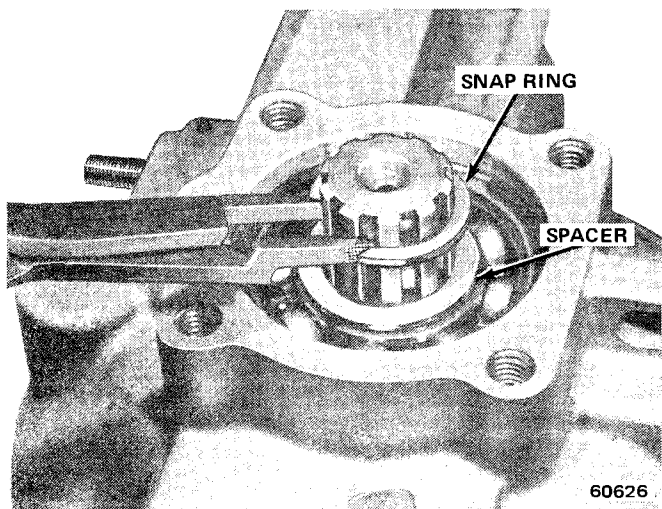

Fig. 2D-28 Main Shaft Snap Ring Removal-Installation
(7) Remove following components as assembly: direct drive sleeve and needle bearing, shift collar hub and needle bearing, reduction collar hub, and ring gear and needle bearings (fig. 2D-30).